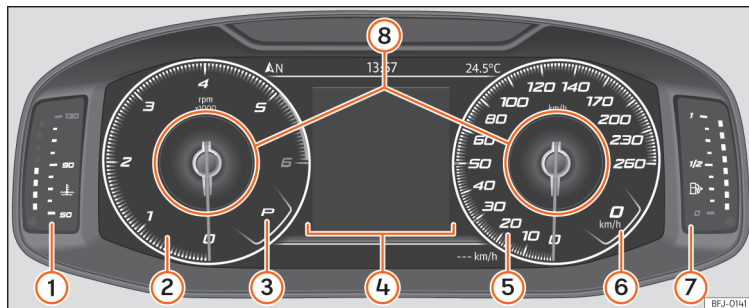

Fig.70 SEAT Digital Cockpit on the instrument panel (classic view).
In *Classic View* and *Semicircular watches* it is possible to customise the information displayed under **Information Profiles** » **Fig.70** ⑧.
»» Fig. 70.